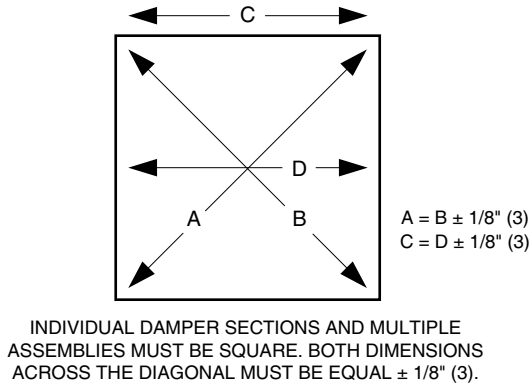

Figure 3
6. Ensure dampers are set completely square, plumb, and free from racking, twisting, or bending and are free to operate without binding (see Figure 3). A clearance must be maintained between blade and blade bearing. Move blade solidly to one side against bearing and measure clearance at the other end. If jamb seals are present, compress to determine clearance. Dampers must operate without binding. Before system operation, cycle damper after installation to assure proper operation. On multiple section assemblies, all sections should open and close simultaneously.